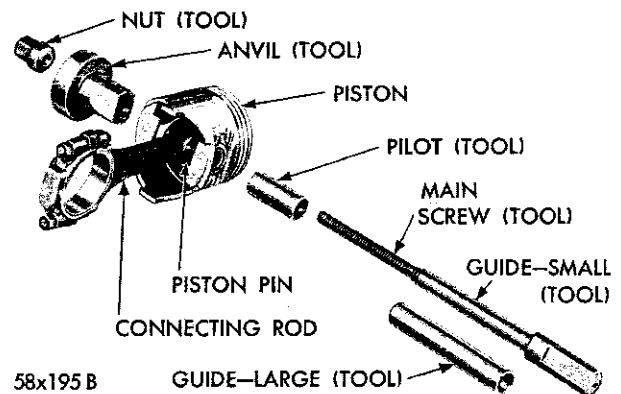
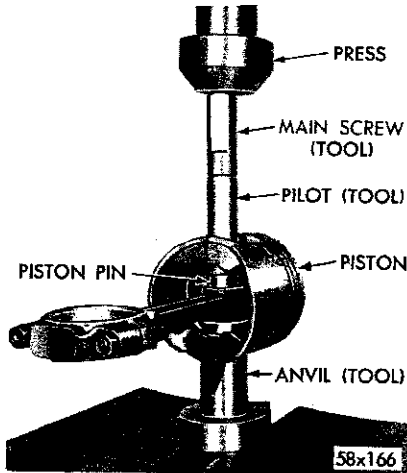

Fig. 39—Tool Arrangement for Removing Piston Pin
Fig. 40—Removing the Piston Pin from the Connecting Rod
(1) Arrange Tool C-3624 parts for the removal of piston pin, as shown in Figure 39.
(2) Install pilot on the main screw.
(3) Install the main screw through the piston pin.
(4) Install anvil over the threaded end of the main screw with small end of anvil against the piston boss.
(5) Install nut loosely on the main screw and place the assembly on a press, as shown in Figure 40.
(10) Remove the tool and arrange tool parts and piston assembly in the same manner, as shown in Figure 39.